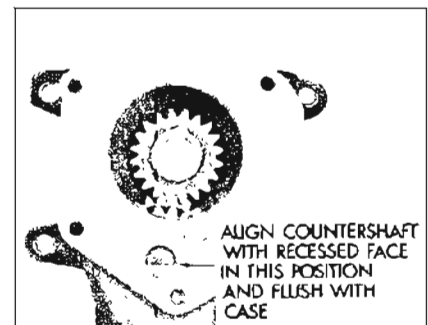

Figure 4-30—Countershaft Alignment
13. Lubricate and insert countershaft in rear of case. Align counter gear with shaft and tap shaft thru, pushing Tool J-5777 out front of case. Be sure the flat on the end of countershaft is horizontal and to the bottom of the case. See Figure 4-30.
14. After shaft is aligned as described above and as shown in Figure 4-30, drive shaft into case until the flat on shaft is flush with case.